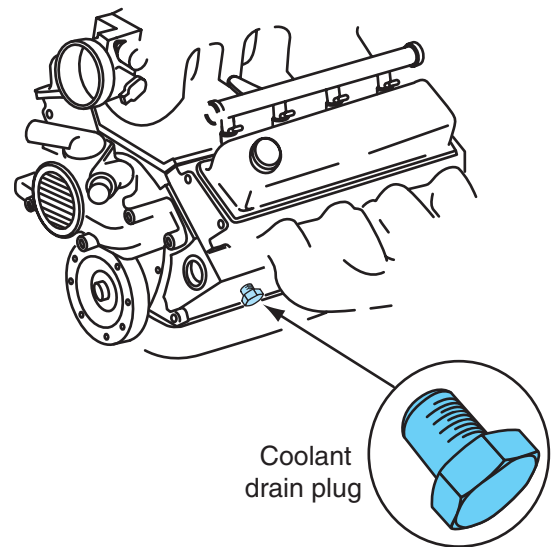

FIGURE 4.14 A coolant drain plug in a cylinder block.
2. **Drain coolant and oil.** Drain all coolant from the radiator and block. If the coolant is not to be reused, be sure to comply with local regulations for its disposal. If the block is equipped with a coolant drain plug (**Figure 4.14**), the engine block should also be drained. Drain engine oil and remove the oil filter. The oil filter is made of thin sheet metal that is easily crushed or torn if the filter wrench is not held as close to the filter base as possible (see Chapter 14).